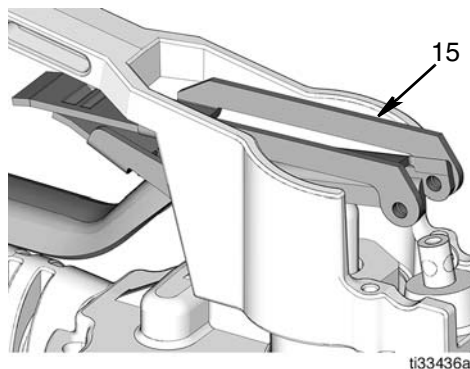

FIG. 22
6. Remove trigger assembly (15) from the housing (FIG. 22).